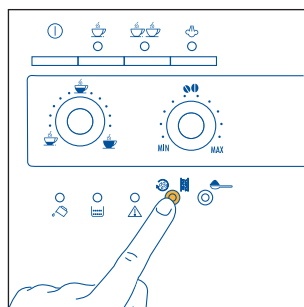

Fig. 14
1) If, when the machine has just been turned on, a short cup of coffee is required (less than 60cc), use the hot rinsing water to pre-heat the cups (see the suggestion in par. 4.3, point 5). 1) If, when the machine has just been turned on, a short cup of coffee is required (less than 60cc), use the hot rinsing water to pre-heat the cups (see the suggestion in par. 4.3, point 5). If, on the other hand, more than 2/3 minutes have elapsed since the last coffee was made, before preparing **another coffee the infuser must be pre-heated, pressing the ☕ ☕ button** (Fig. 14).